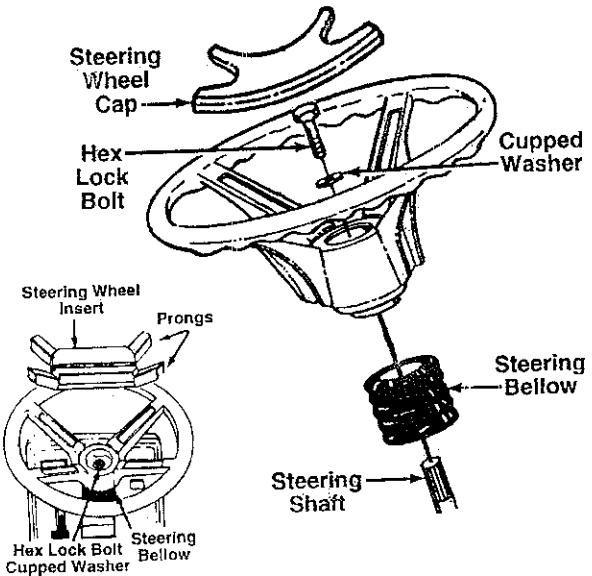

FIGURE 1.
- 5 Place the washer with the cupped side down over the steering shaft. Secure with hex lock bolt. See figure 1.
- 6a Place the **steering wheel cap** over the center of the steering wheel and seat it with your hand. See figure 1.
- 6b Snap the **steering insert** over the four spokes of the steering wheel. See figure 1, inset.